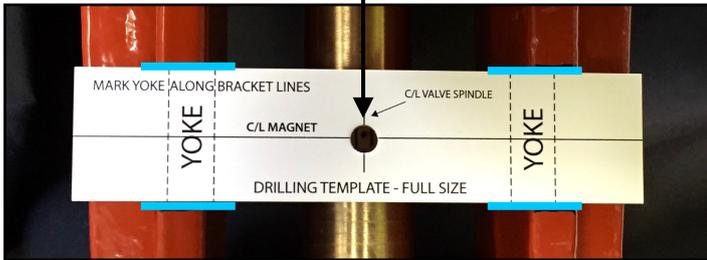

Fig 3: Mark bracket lines in permanent marker on both yokes as seen in BLUE
9. To locate side bracket points mark four horizontal lines on the yoke along the top and bottom edges of the drilling template as seen in Fig 3 (BLUE LINES). Remove template.